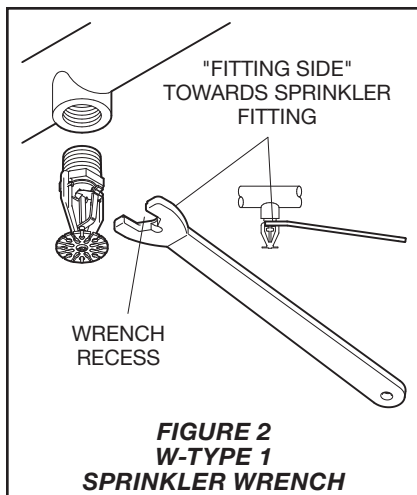

FIGURE 2
Note: *Install the Model ESFR-25 Pendent Sprinkler in the pendent position (Ref. Figure 2).*
Step 2. Wrench-tighten the Model ESFR-25 Pendent Sprinkler using only the W-Type 1 Sprinkler Wrench (Ref. Figure 2) and by fully engaging (seating) the wrench on the sprinkler wrench flats (Ref. Figure 1).